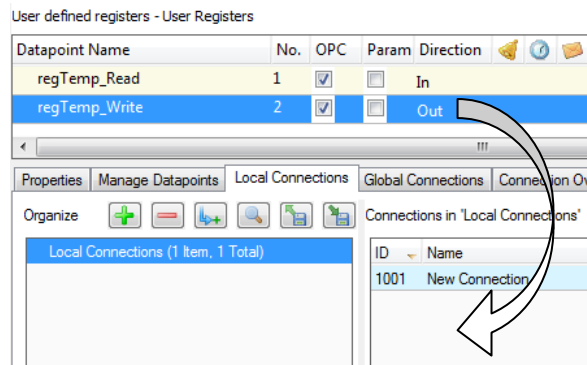

Figure 206: Create a connection with drag-and-drop.
2. In the properties view below the data point list click on the **Local Connections** tab as shown in Figure 206.
- Then simply drag a data point from the data point list and drop it onto an empty area in the connections list as shown in Figure 206.